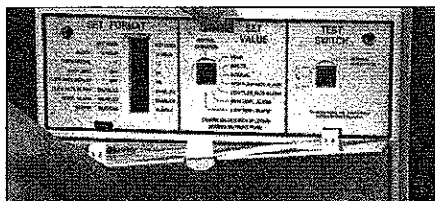

Figure 62
5. Attach the rear door to the enclosure by carefully pushing the rear door hinge tabs into the rear enclosure hinge slots (see Figure 62).